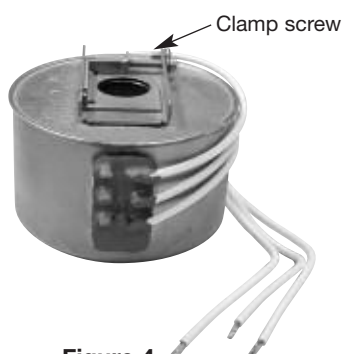

Figure 4
4. Loosen the clamp screw at the top of the switch by turning it counterclockwise. Refer to Figure 4 on page 4.